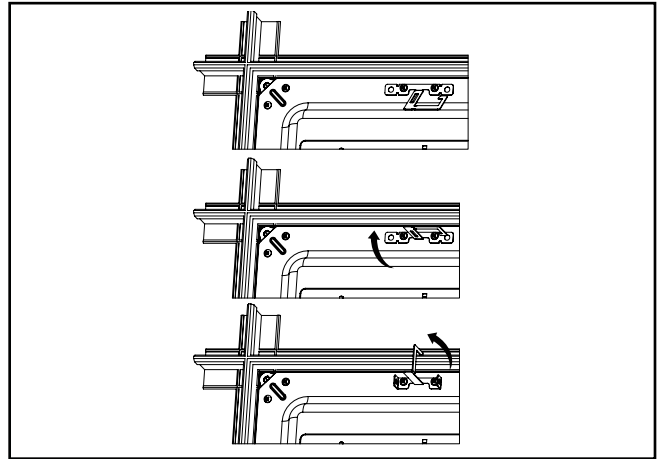

Figure 4.
1. Grid clips are provided for additional retention to ceiling system. Orient 4 tabs on back of fixture over T-GRID by bending tabs up 90 degrees perpendicular to back of fixture. Next bend tabs 90 degrees towards T-GRID frame (Fig. 4).